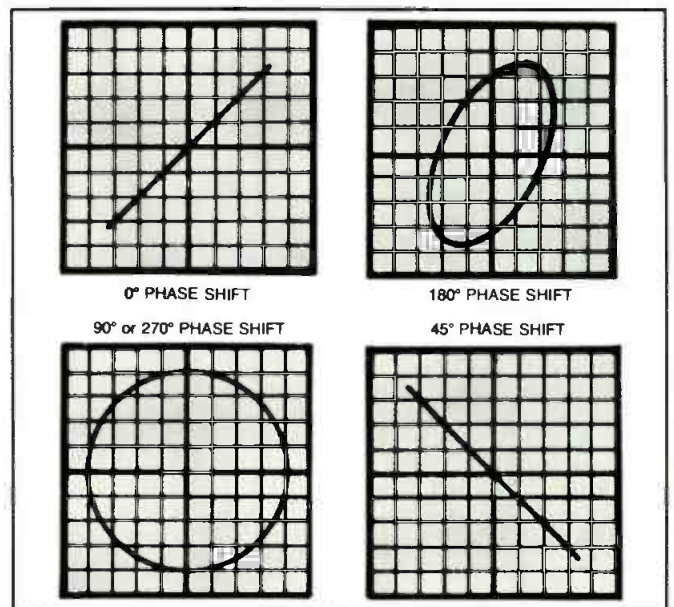

Figure 3. Oscilloscope phasing patterns. (Courtesy 3M/ITC.)
- Adjust the oscilloscope horizontal and vertical gain controls to give the display for zero-degree phase shift, as shown in the scope pictures of Figure 3. Polarity inversion in some oscilloscopes will result in a display that is 180 degrees out of phase, when the input is correctly phased. Many scopes have horizontal polarity inversion switches to correct this situation. When using a scope without such a control, reverse the polarity of the horizontal input signal to achieve the correct pattern. (We make the assumption here